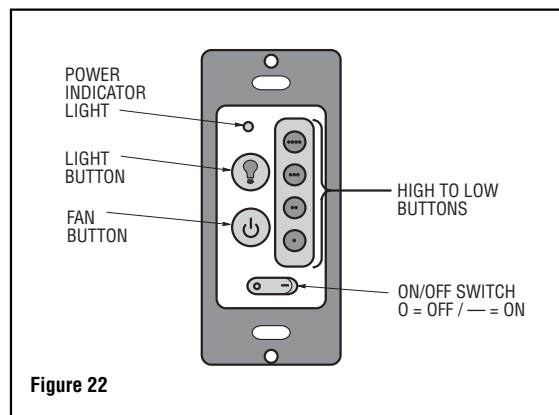

Figure 22
16. To turn the light on and off, press and release the LIGHT (Ⓢ) button. To set the light intensity, press and hold the LIGHT (Ⓢ) button. The light will turn on at the light intensity previously selected (Figure 22).